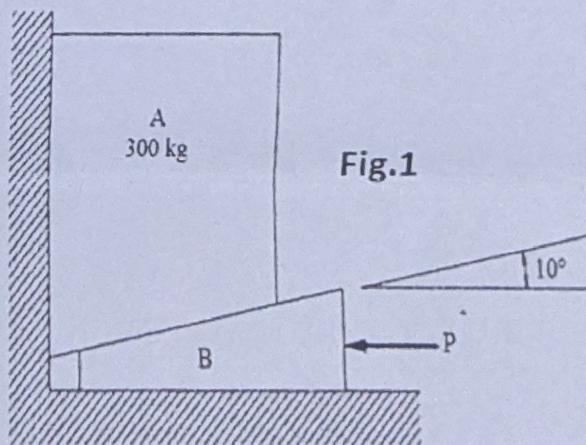

Fig.1
2. For the given system of wedges (Fig.1), determine least value of the horizontal force P required to raise Block A. The coefficient of static friction for all contact surfaces is 0.3. Assume Block B to be of negligible weight.